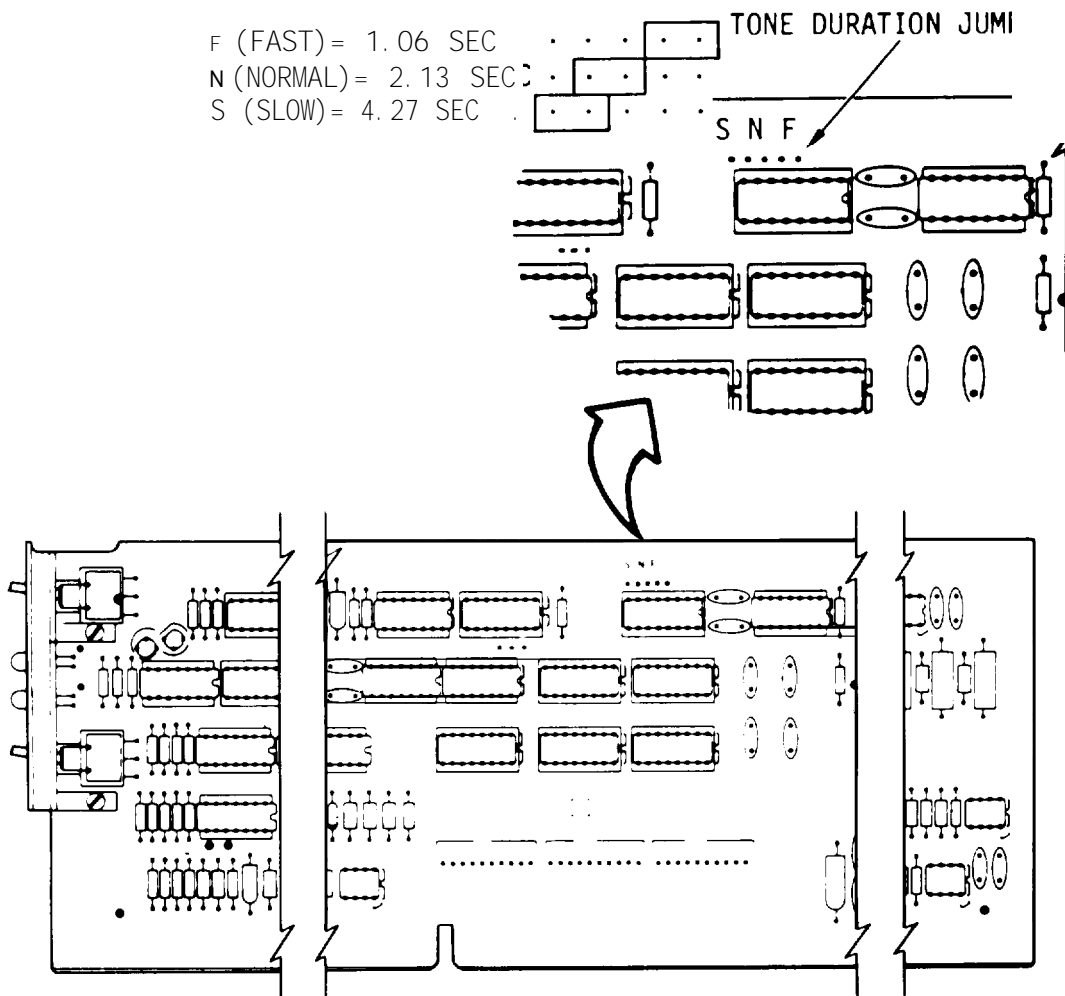

Figure 1-10. Remote Loopback Board (A8) Plug Jumper
d. Remote Loopback Board (A8) Jumpers. A remote dc loopback is initiated by sending a 1.92 kHz tone to the remote site. A remote audio loopback is initiated by sending a 2.4 Hz tone. The transmit carrier is off while tone is sent. Sending both tones simultaneously clears the loopback. The duration of time the tones are sent for each of the three commands is determined by a plug jumper. This jumper (fig. 1-10) will normally be in the 2.13 second position.